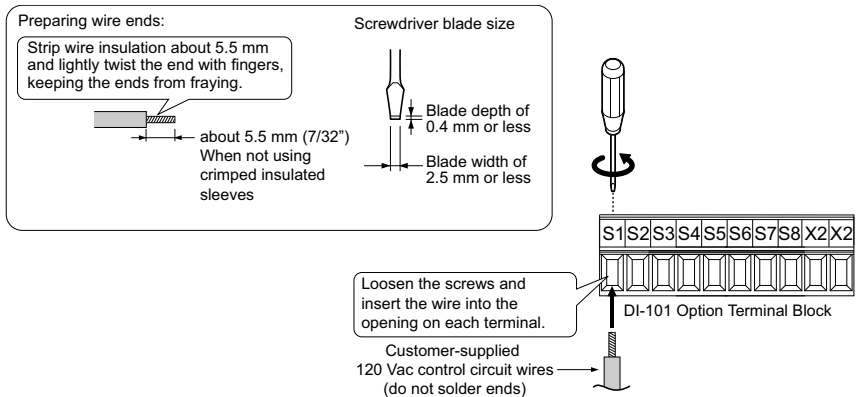

Figure 6.15 Preparing Cable Wiring
6. Ensure the factory installed wire jumper is present between TB1 terminals SC to SP. If no wire jumper is present, prepare and install a jumper according to Figure 6.15. Route the customer-supplied option wiring through one of the cable glands on the GA800 drive bottom conduit bracket.
7. Prepare the external 120 Vac control circuit wires (customer supplied) for terminals S1 to S8 and X2 on the DI-101 option as shown in Figure 6.15.